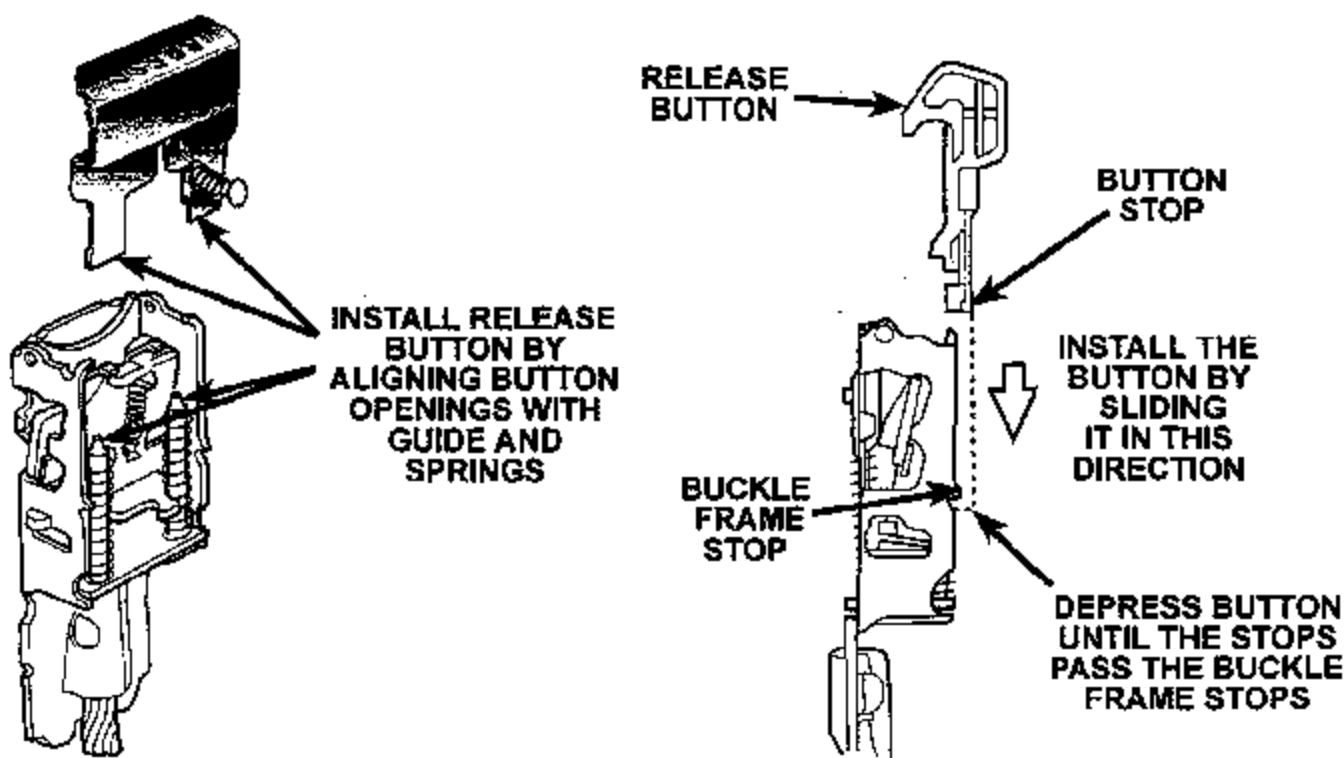

Figure 10
14. Install the release button by sliding the button over the guides and springs until the button stops pass the buckle frame stops (Figure 10).